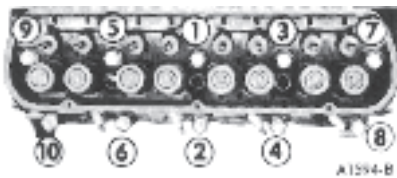

Fig. 20 Cylinder Head Bolt Torque Sequence
3. The cylinder head bolts are tightened in three progressive steps. Torque all the bolts in sequence (Fig. 20) to specifications. When cylinder head bolts have been tightened following this procedure, it is not necessary to retorque the bolts after extended operation. However, the bolts may be checked and retorqued if desired. If removed, install the exhaust manifolds and retorqued the attaching bolts to specification.